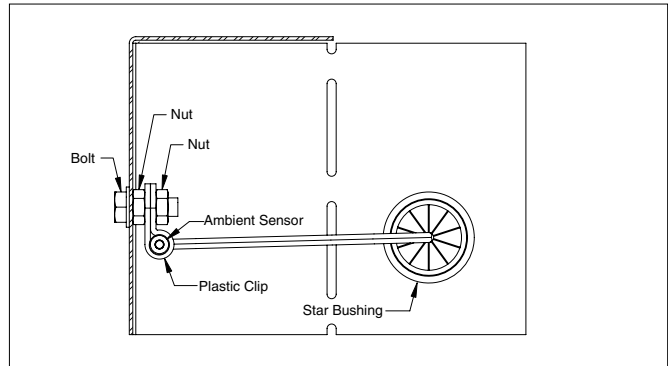

Figure 5. Ambient Sensor Mounting
4. Feed the sensor through the star bushing. Use the star bushing to secure the mounting bracket to the unit. (see figure 5)
5. Secure the ambient sensor inside the plastic clip and secure it to the mounting bracket with the screw and nut provided **NOTE:** Install one spacer next between the plastic clip and mounting bracket as shown in figure 5.